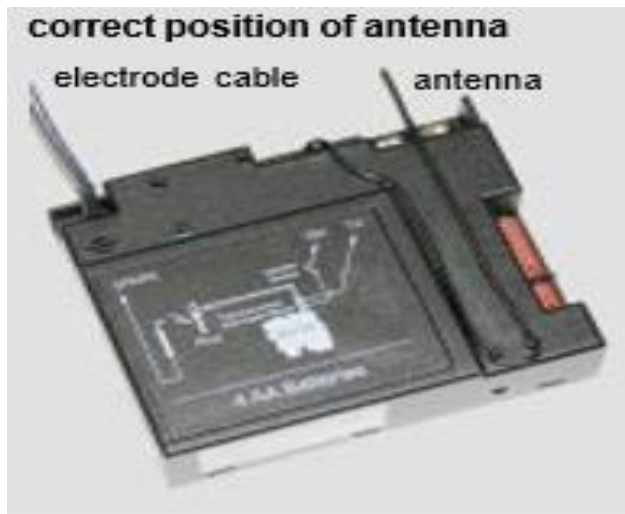

Figure 1
- 🔥 Receiver (see figure 1) must learn new code: